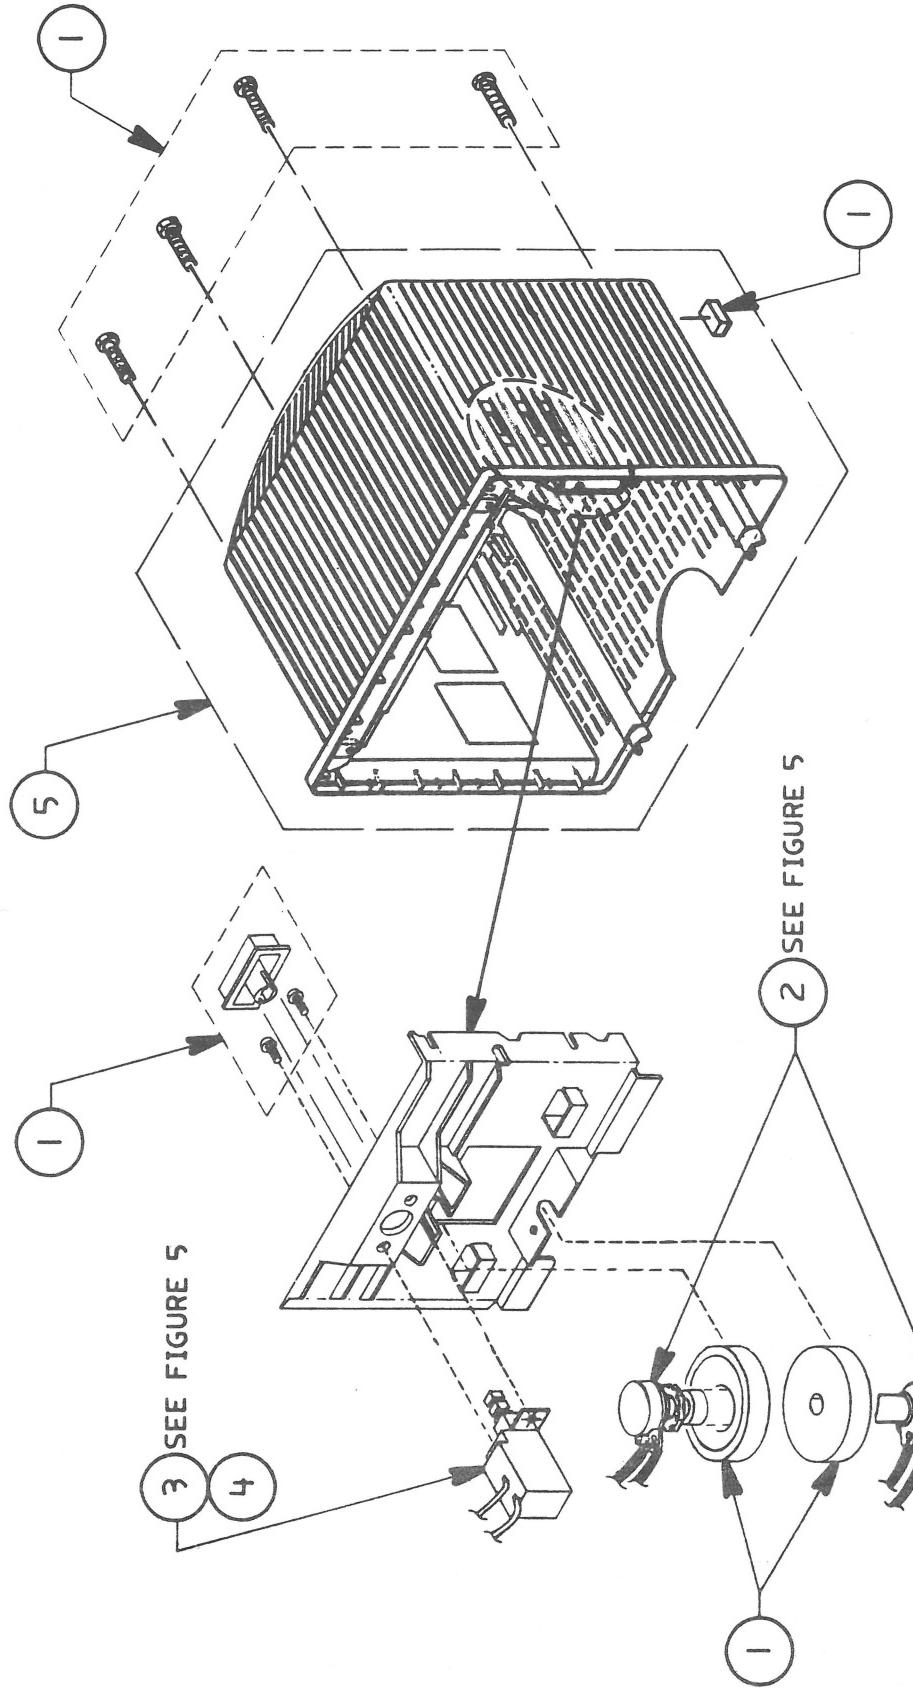

FIGURE 4
- 5.9 Rear Cover and Controls (Figure 4)
RGB MONITOR – REAR COVER AND CONTROLS (Figure 4)